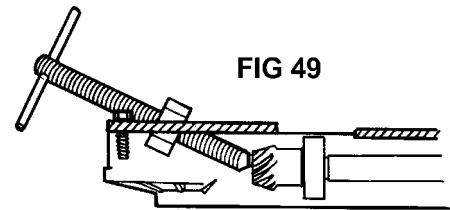

FIG 49
5. If service tool available, remove shaft after fixing to main casing with existing screws and screwing out (Fig 49).